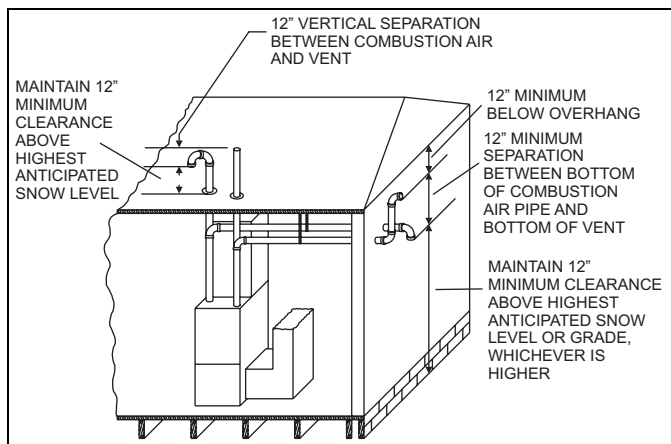
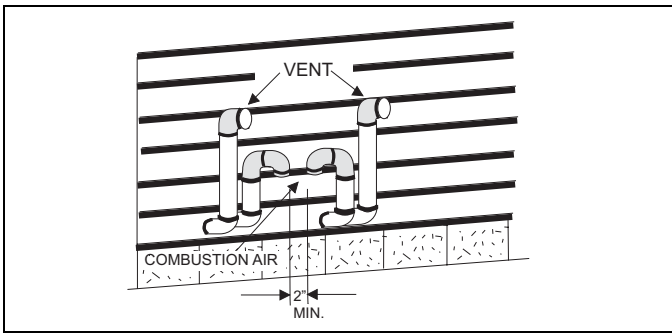

FIGURE 11: Termination Configuration - 2 Pipe
FIGURE 13: Double Horizontal Sealed Combustion Air and Vent Termination
7. Sealed combustion air systems must be installed so the vent and the combustion air pipes terminate in the same atmospheric zone. Refer to Figures 11 or 12.
6. Sealed combustion air systems must be installed so the vent and the combustion air pipes terminate in the same atmospheric zone. Refer to Figures 11 or 12.
The combustion airside of the two-pipe configuration shown in Figure 11 can be installed so the combustion air pipe terminates as described in outdoor combustion air or ventilated combustion air sections in these instructions. Follow the instructions for outdoor combustion air or ventilated combustion air and the instructions for installing the vent system with the vent terminating as shown in Figures 13 or 14. The two-pipe system must have a separate combustion air pipe and a separate vent pipe for each furnace. Under NO circumstances can the two combustion air or vent pipes be connected together. The combustion air and vent pipes must terminate in the same atmospheric zone.